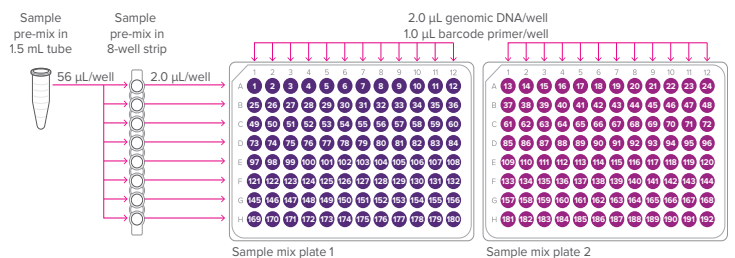

Figure 3. Preparation of sample mixes (per-well transfer volumes)
- 4 Pipet 56  $\mu\text{L}$  of the sample pre-mix into each well of a new 8-well strip (see Figure 3).
- 2 In a DNA sample hood, prepare the sample mixes by pipetting the components shown in Table 5 into each well of two new 96-well plates. Pipet reagents and samples according to the diagram shown in Figure 3. Use an 8-channel pipette to transfer the sample pre-mix from the 8-well strip.